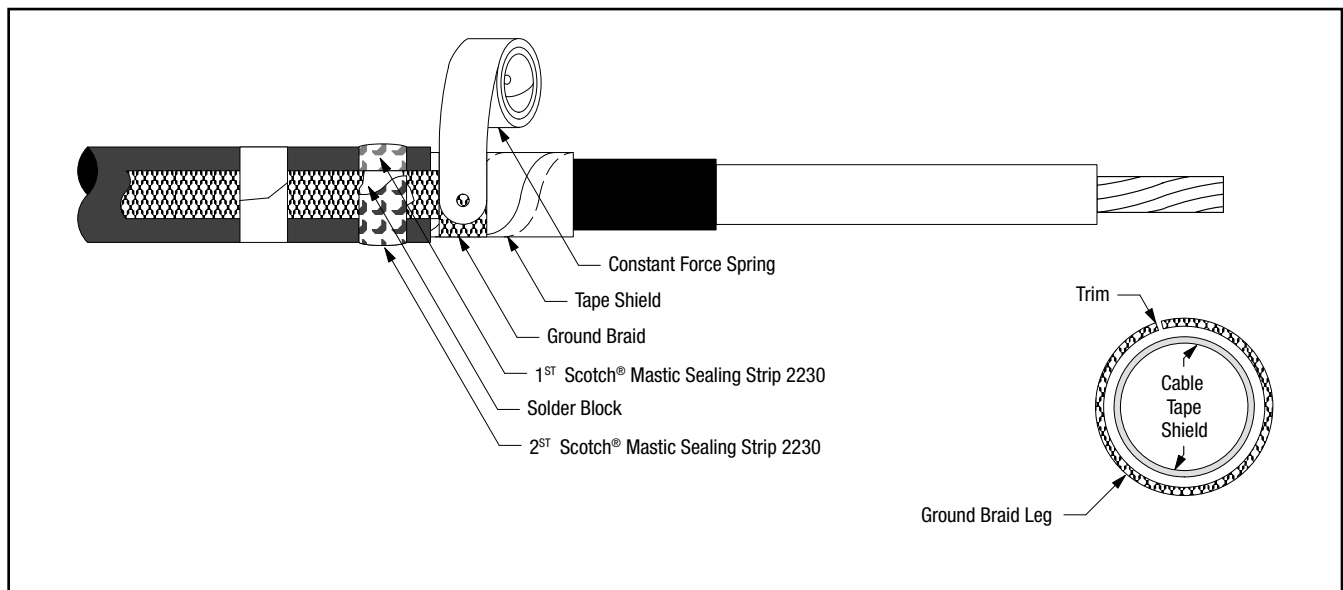

Figure 3
- 3.2 Wrap ground braid around cable tape shield one complete wrap, trim excess to prevent overlap and secure in place with constant force spring. Wrap spring in same direction as ground braid (Figure 3). Cinch (tighten) the spring after wrapping the final winding.
- 3.3 Select second Scotch® Mastic Sealing Strip 2230 from kit and remove white release liners. Apply a second **SINGLE WRAP** of mastic over solder block on ground braid and previously applied mastic (Figure 3). Cut off excess.